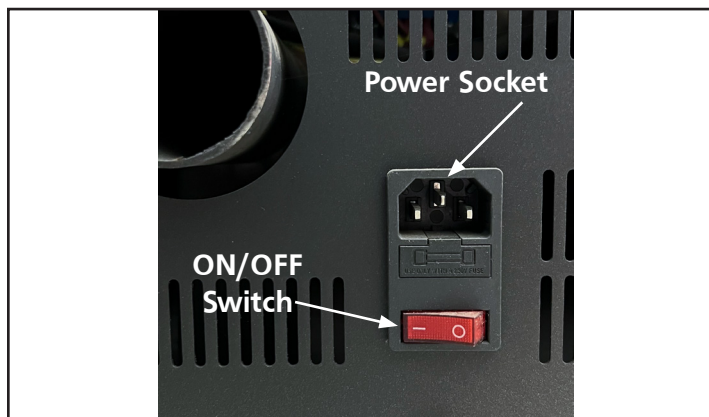

Figure 17: Power Socket/ON/OFF Switch
1. Plug power cord into socket on the rear bottom of stove and press the red ON/OFF toggle switch above it to ON. See Figure 17.